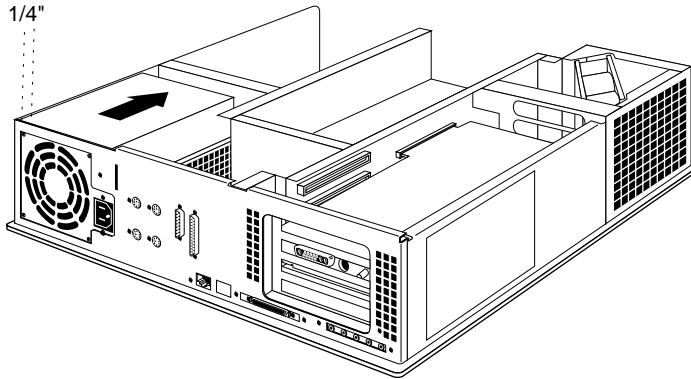

Figure 8-24 Moving the Power Supply Toward the Front of the Chassis
- Move the power supply toward the front of the system about 1/4", as shown in Figure 8-24, by pushing on the flat surfaces around the fan.